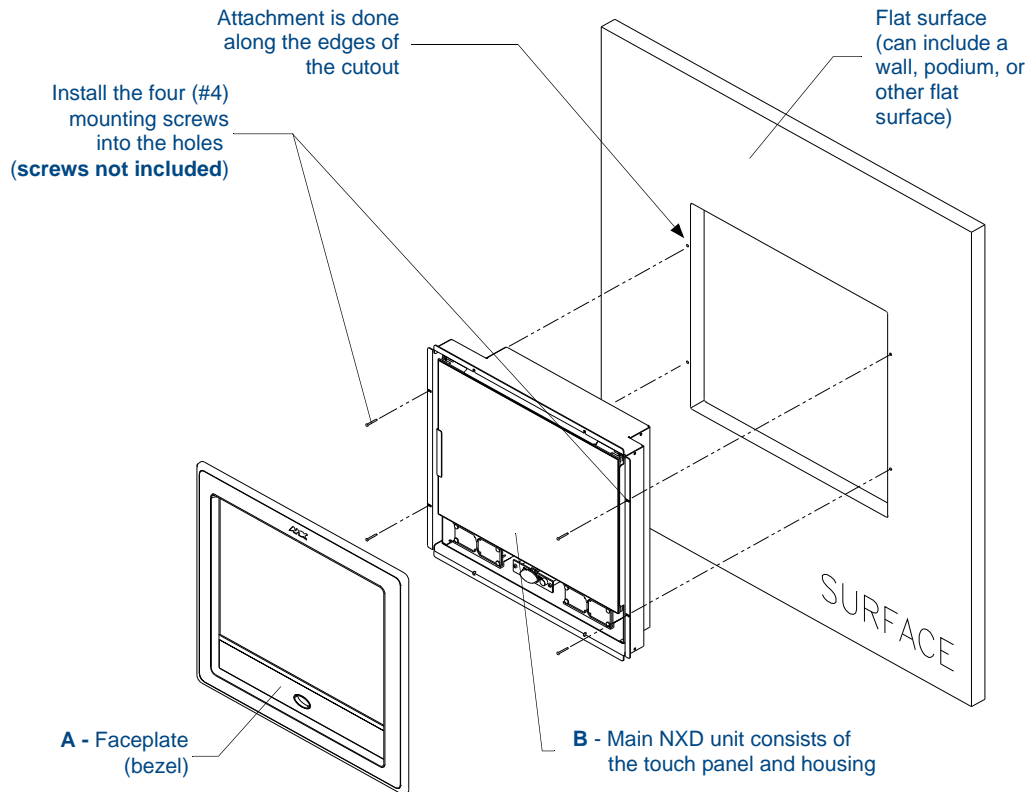

FIG. 42 Wall Mount panel installation configuration for flat/solid surfaces
3. Remove the magnetic faceplate/bezel (**A** in FIG. 42) from the main NXD unit (**B** in FIG. 42) by gripping the faceplate and pulling with gentle outward force.
10. Place the magnetic faceplate (A in FIG. 42) back onto the main NXD unit (B in FIG. 42). *Make sure to align the Microphone, Light, and PIR Motion sensor locations to their respective openings on the front bezel/faceplate.*